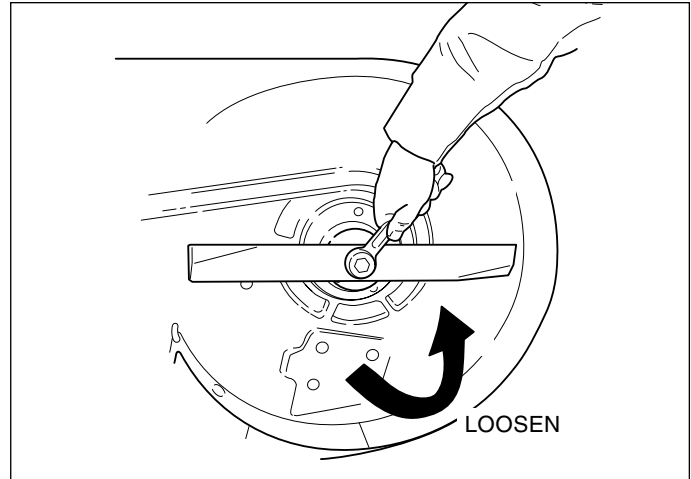

Figure 7. Removing the Blade
3. To remove blade for sharpening, use two (2) 15/16" wrenches to remove the nut from the top of the blade bolt. (Figure 7).